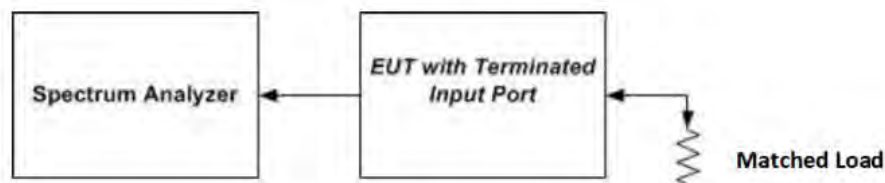
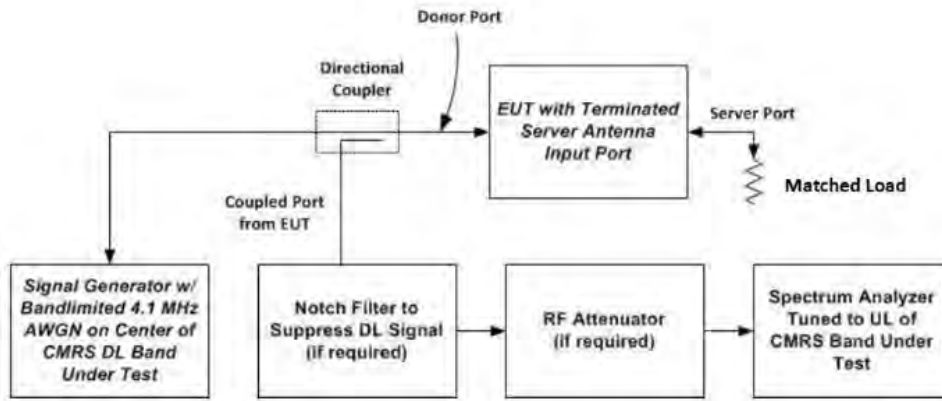

Figure 2 – Noise limit test setup
Figure 3 – Test setup for uplink noise power measurement in the presence of a downlink signal
- a) Connect the EUT to the test equipment as shown in Figure 2. Begin with the uplink output (donor) port connected to the spectrum analyzer. When measuring downlink noise, connect the downlink output (server) port to the spectrum analyzer.
- h) Connect the EUT to the test equipment as shown in Figure 3 for uplink noise power measurement in the presence a downlink signal. Affirm the coupled path of the RF coupler is connected to the spectrum analyzer.
- m) Measure the maximum transmitter noise power level while varying the downlink signal generator output level from -90 dBm to -20 dBm , as measured at the input port (i.e., downlink signal level at the booster donor port node of Figure 3), in 1 dB steps inside the
NOTE—Some signal boosters will require a signal generator input because they will not operate unless a signal is received at the input terminals. If this is the case, for the setups shown in Figure 2 and Figure 3 connect a second signal generator at the server port, then cycle the RF output of the second signal generator to simulate this function.
Variable uplink noise timing is to be measured as follows, using the test setup shown in Figure 3.